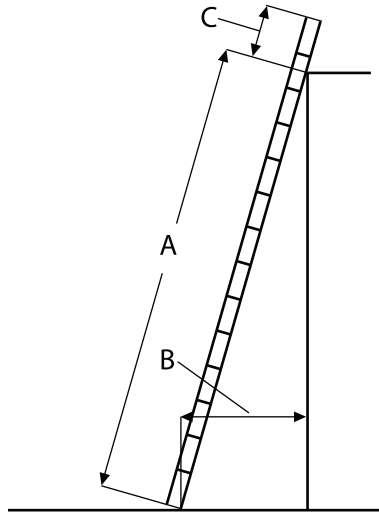

Figure 5 — Correct ladder slope
- Ensure the correct slope is maintained. In Figure 5, if A is 4 m (13 ft.), then B should be approximately 1 m (3 ft.), and C should be approximately 1 m (3 ft.) above the level of the landing.